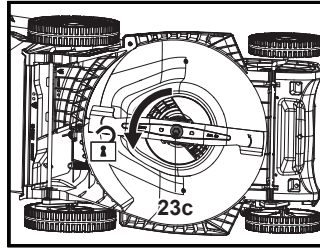

Fig. 18
1. Keep the underbody and cutting blade (23) clean and free of debris. Remove clippings from the rear discharge chute (22).
3. Keep the cutting blade (23) sharp to ensure a good cutting performance. Replace a worn or damaged cutting blade with a new one of the same type or have it sharpened by a qualified specialist.
- Loosen the mounting bolt (23c) counterclockwise using a suitable electric impact wrench (socket size 13 mm) (Fig. 18), remove it together with the flat washer (23b) and the cutting blade (23).